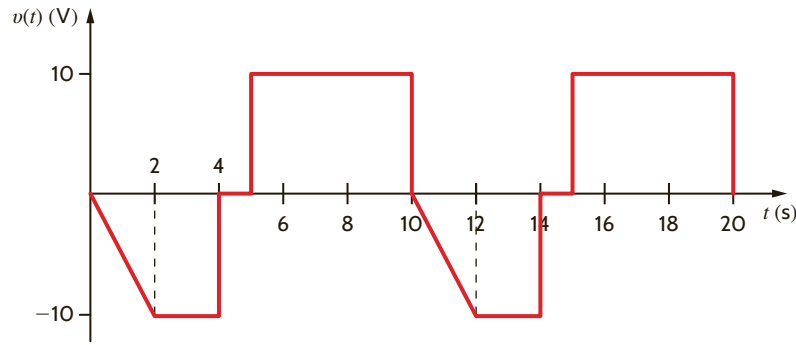

Figure E9.13
**E9.13** The voltage across a 2-W resistor is given by the waveform in Fig. E9.13. Find the average power absorbed by the resistor.